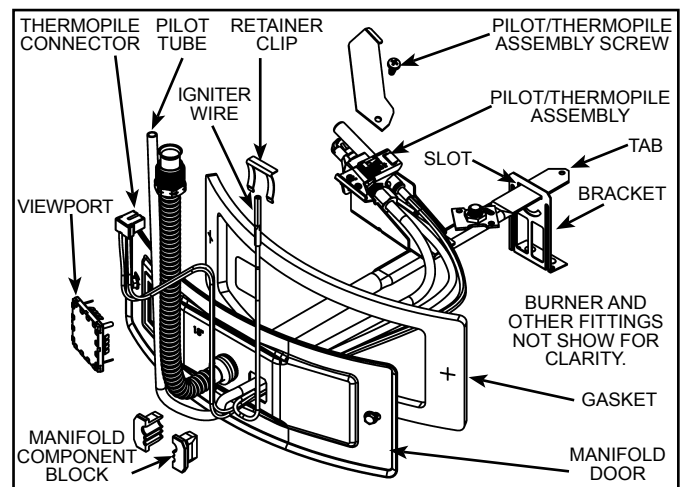
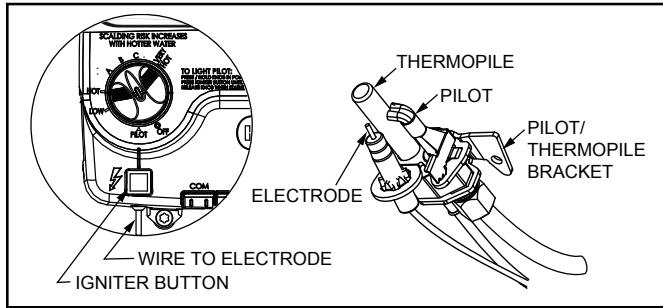

Figure 36
Figure 39
3. Remove the screw securing the pilot/thermopile assembly to the pilot bracket and keep for reuse later (see Figure 36 & Figure 39).
4. Lift the retainer clip straight up from the back of the manifold component block (using a flat-blade screwdriver), then remove the manifold component block from the manifold door (see Figure 36).
7. Route the new pilot tube, igniter wire and thermopile wires through the opening in the manifold door (see Figure 36).
1. Check the door gasket for damage or imbedded debris prior to installation (see Figure 36).
2. Inspect the viewport for damage and replace as required (see Figure 36).
3. Insert the new manifold/burner assembly into the burner compartment, making sure that the tab of the manifold tube engages the slot of the bracket inside the combustion chamber (see Figure 36).
4. Inspect the door gasket and make sure there is no fiberglass insulation between the gasket and the combustion chamber (see Figure 36).
The piezoelectric igniter system consists of the igniter button, electrode, and wire. The pilot is ignited by an electric spark generated when the igniter button is pressed (see Figure 39).